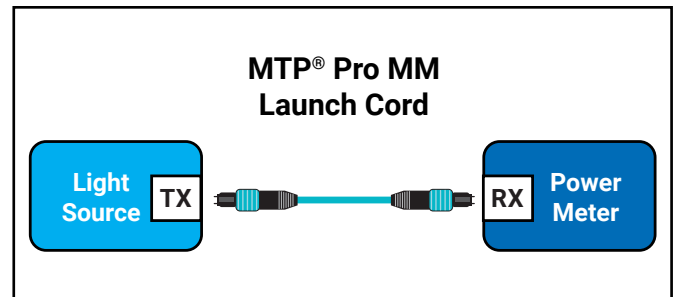

Figure 9a: Establish a reference
4. Connect the launch cord between the light source and the power meter (see Figure 9a).